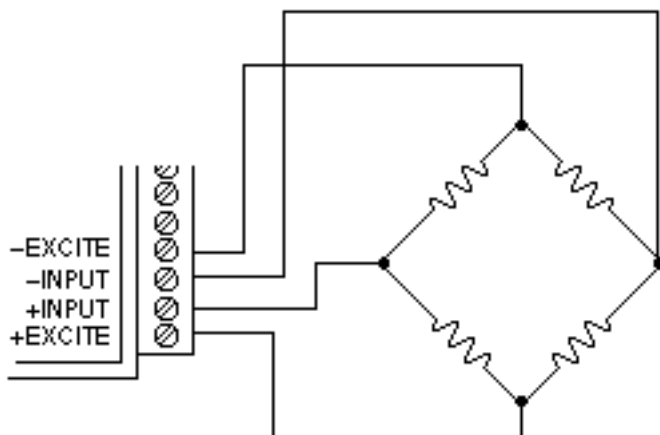
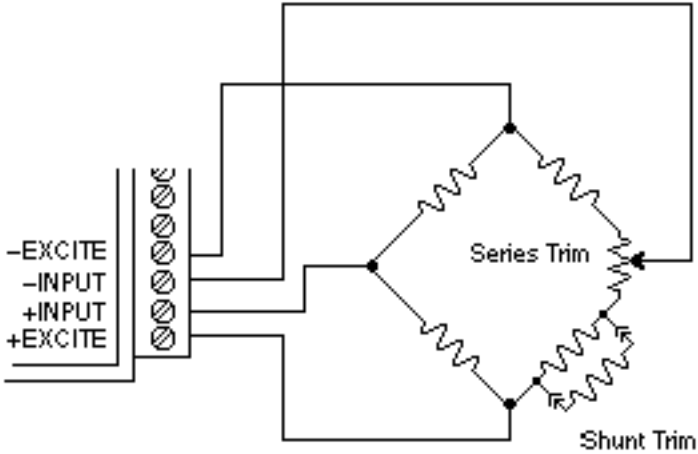

Figure D-1 Bridge Circuit Wiring
Figure D-2 Bridge Circuit Trim
To perform an initial offset trim, attach the bridge unit to the module (as shown in Figure D-1). Clear out any previous offset trims with the Clear Zero (CZ) command. Apply the desired zero condition to the bridge sensor. For a Strain Gage Bridge this would be the relaxed or unstrained condition. For load cells, the zero condition could include any tare weight due to a weighing platform or other attachments that would affect the zero balance. Obtain an initial reading using the Read Data (RD) command. The output data will indicate the total offset of the system. Subtract the offset value from the usable input range of your module, either  $\pm 60\text{mV}$  or  $\pm 120\text{mV}$ . The result is the maximum usable "input overhead". If the overhead is not sufficient for your application, the bridge must be trimmed externally to lower the offset to an acceptable value. The bridge may be trimmed with a small series resistance or a large shunt resistance to the appropriate leg of the bridge (as shown in Figure D-2). If the initial offset is acceptable, the offset may be trimmed with the Trim Zero (TZ) command.